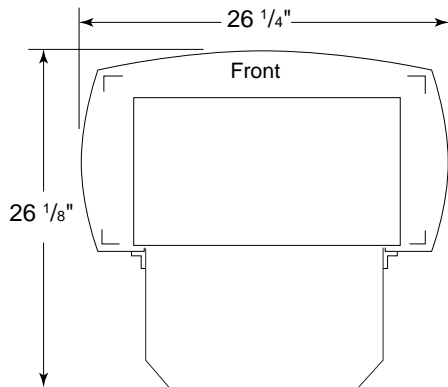

Figure 5 - Stove With Burner System Bottom Dimensions
4. This stove is a freestanding unit designed to set directly on the floor. If your stove is to be installed directly on carpeting, vinyl tile, or any combustible material other than wood, it must be installed on a metal or wood panel extending the full width and depth of the stove. See Figure 5, page 5.